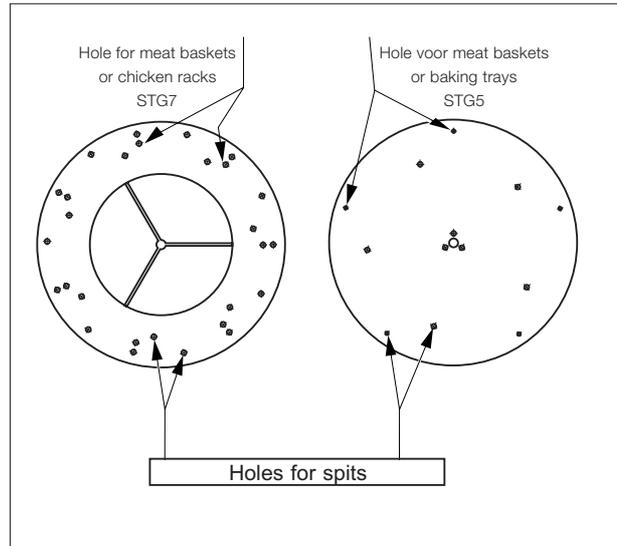

Figure 3.2
- Push the points of the spit into the appropriate holes in the rotor disk (see figure 3.2). Put the other end into the corresponding holes in the opposite disk.
- Push the ends of the baking trays into the correct holes in the rotor disks (see figure 3.2).
- Push the ends of the meat baskets/chicken racks in the corresponding holes of the rotor disks (see figure 3.2).